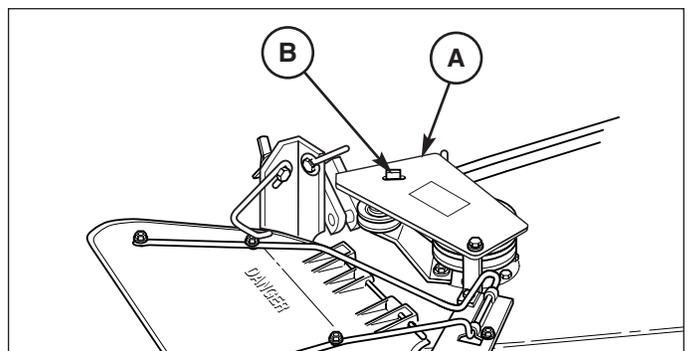

Figure 19. Belt Cover
1. The belt cover plate (A, Figure 19) is a safety shield — after attaching or detaching the turbo unit, it MUST BE rotated onto the belt cover latch (B).